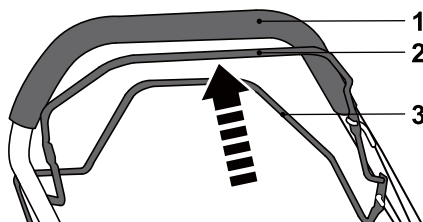

Fig. 11
1. Pull the brake bar (2) towards the handle (1) and hold it in position when starting the engine. Keep it squeezed during operation (Fig. 11).
1. Pull the drive bar (3) towards the handle (1) to engage the wheels (Fig. 11).
2. Release the drive bar (3) to disengage the wheels.